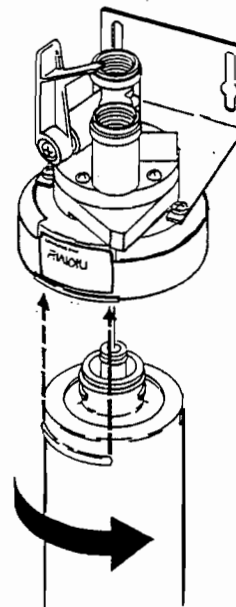

FIGURE 1.1
- A. On filter head, shut the internal valve off by moving the lever fully counter clockwise. (Refer to Figure 1.1)